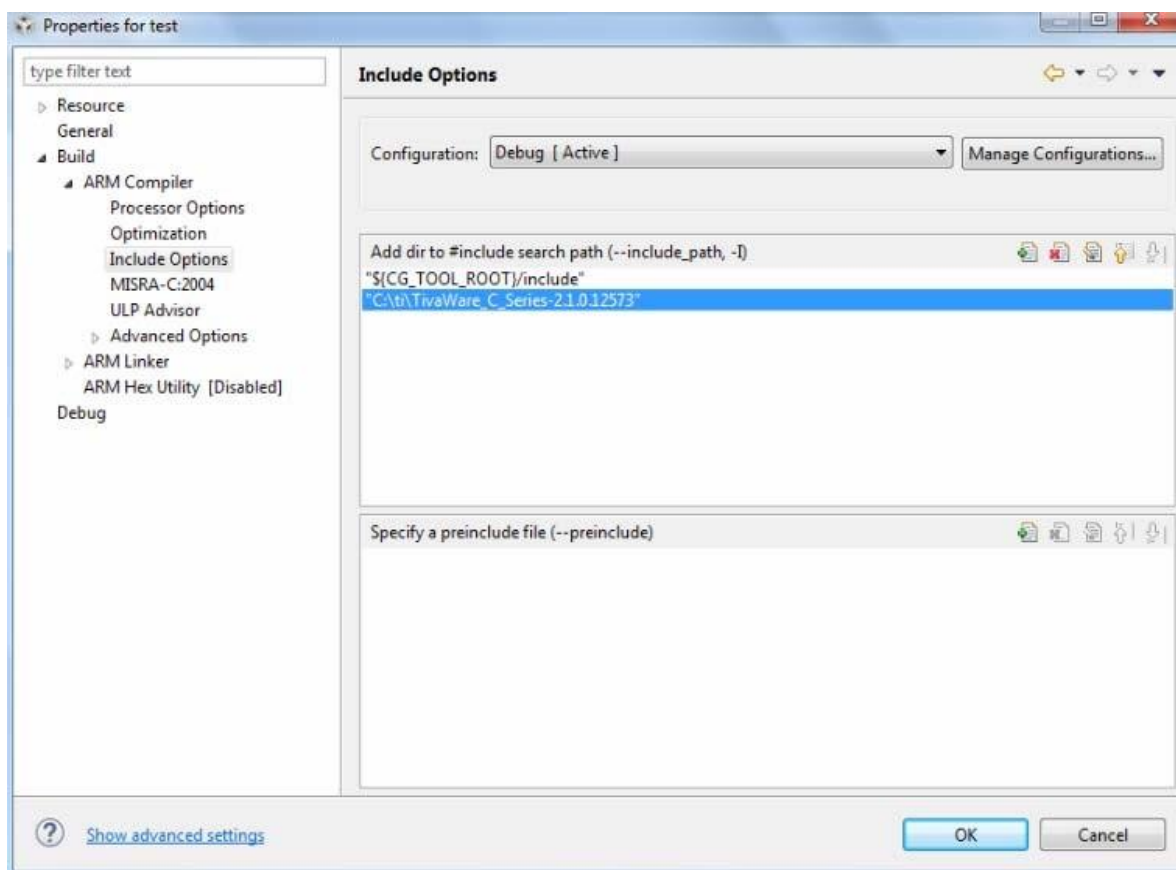

Figure 12 Project Properties Window
- a. Click on **Include Options** under **ARM Compiler** as shown in Figure 12.